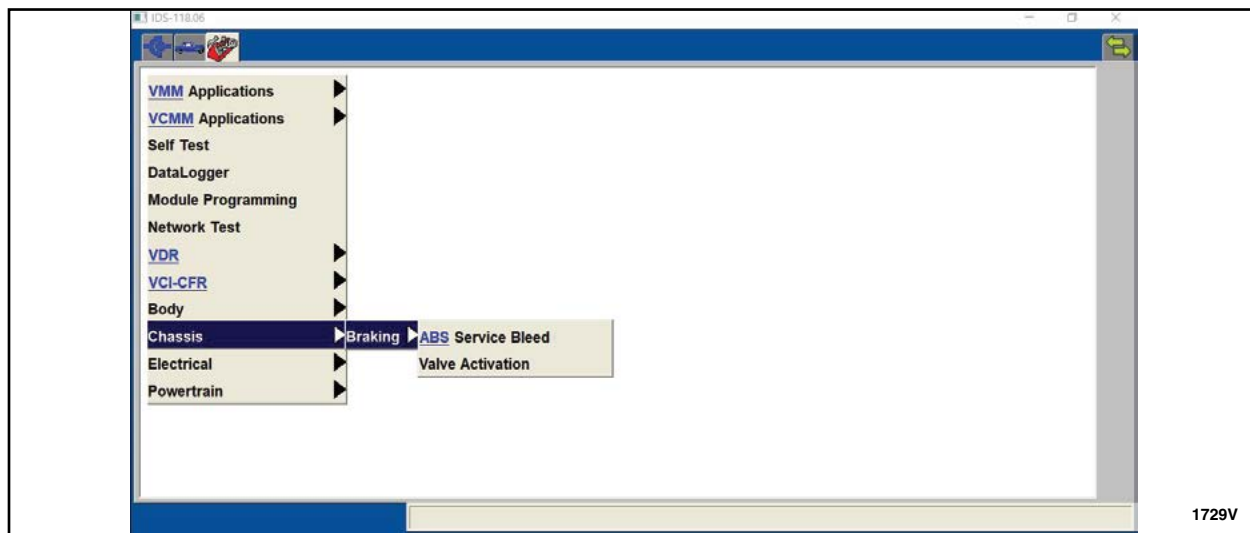

FIGURE 19
6. Select the "Tool Box" tab then "Chassis", "Braking" then "ABS Service Bleed". See Figure 19.